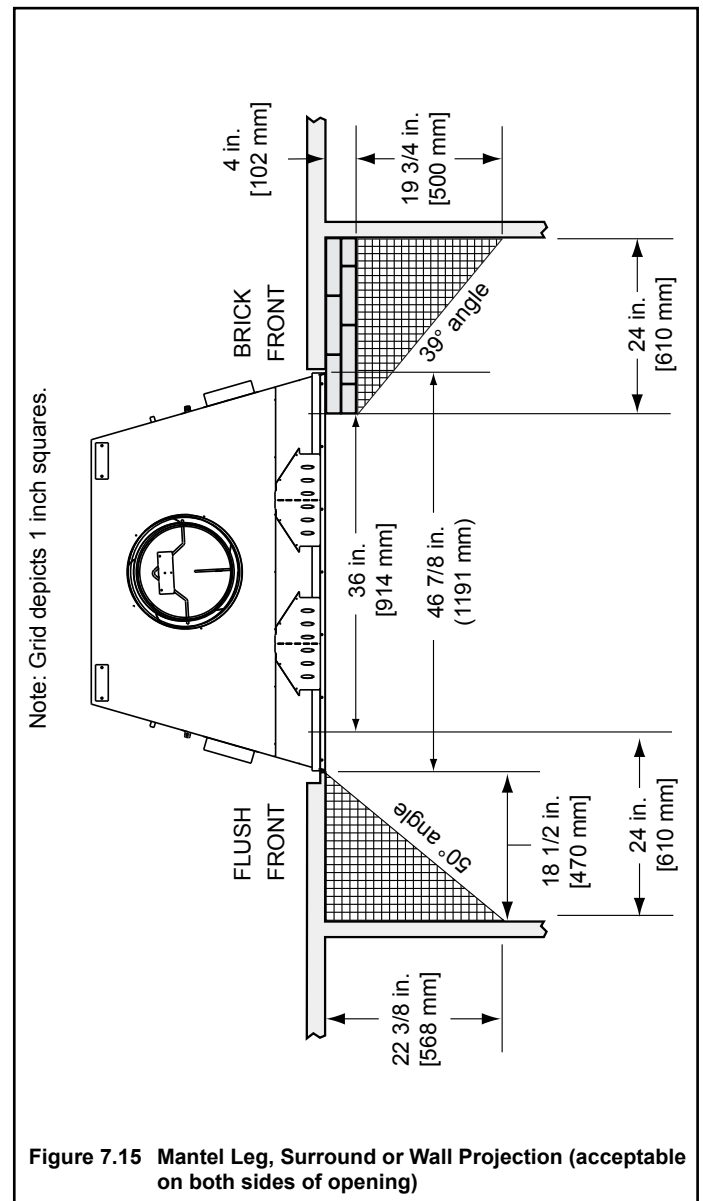

Figure 7.15 Mantel Leg, Surround or Wall Projection (acceptable on both sides of opening)
- Mantle leg, surround, stub wall, whether combustible or non-combustible, may be constructed as shown in Figure 7.15.